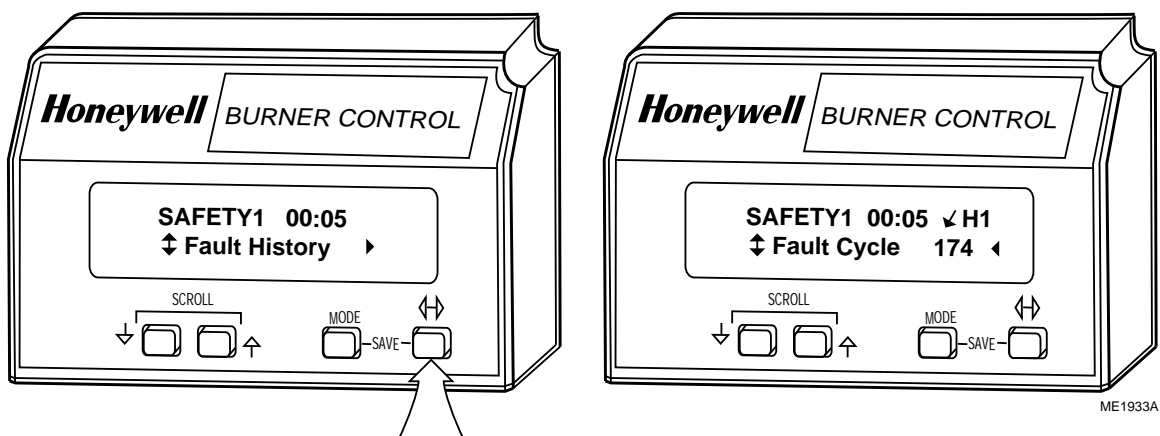

Fig. 19. (↔) Change-Level pushbutton function.
- ❷ Change-Level pushbutton (↔), see Fig. 19.